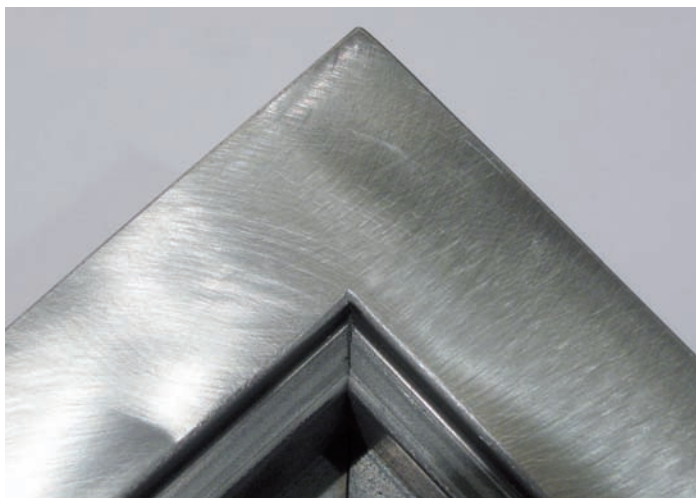

Fig. 138 Profile after finishing
4. Profile after finishing (Fig. 138)